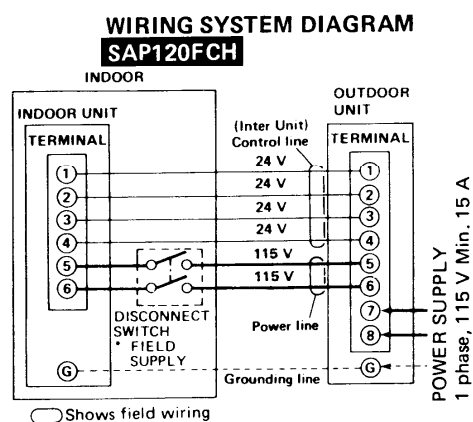

Fig. 6
- ① To remove the access panel, remove 4 screws.
- ② Dismount plugs on the conduit plate.
- ③ Temporarily mount conduit tubes on the conduit plate.
- ④ Properly connect power supply mains and interunit lines to corresponding terminals on the terminal block. Refer to the wiring diagram in Fig. 6, which is labelled on the access panel.